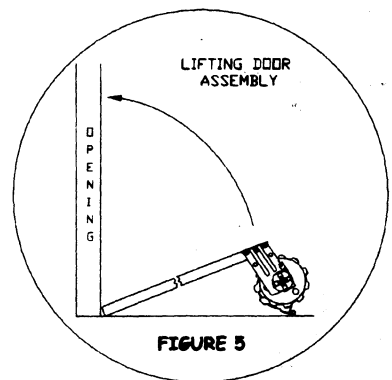

FIGURE 5
- B. Lift door assembly evenly, pivoting around bottom of guides. See figure 5.